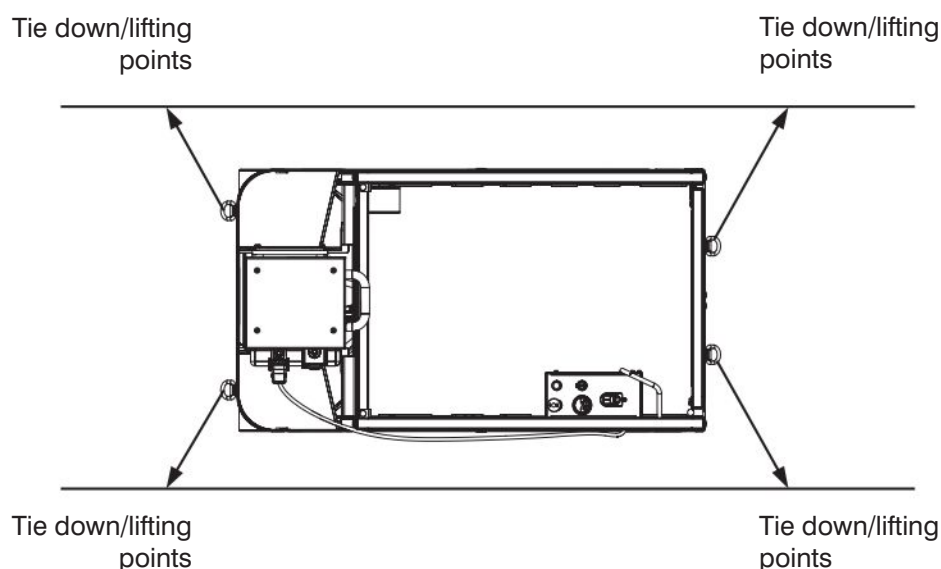

Figure 3-7. Tie Downs/Lifting Points
When transporting, the aerial platform must be secured to the truck or trailer deck. Tie downs are available as illustrated in Figure 3-7.
- The lifting/rigging may be attached to all four lifting points as illustrated in Figure 3-7.